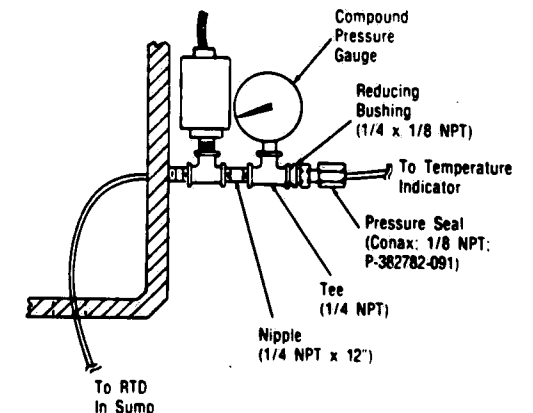

Figure 5-1. INSTALLATION OF TEST EQUIPMENT.
5.2 TEST EQUIPMENT REQUIRED AND INSTALLATION (See Figure 5-1)